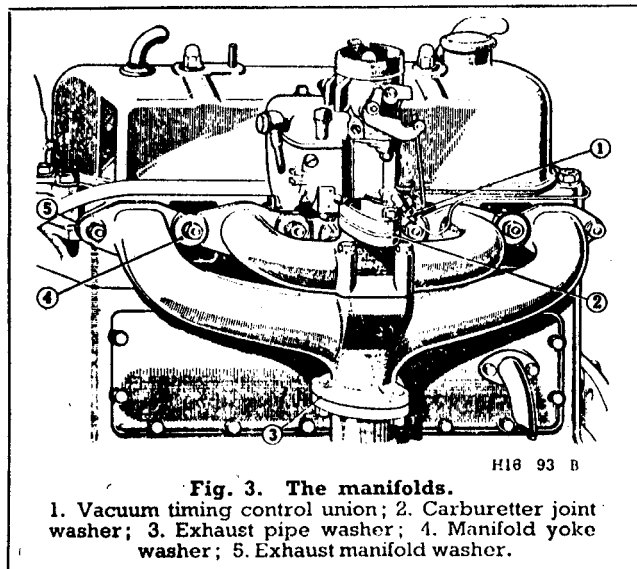

Fig. 3. The manifolds.
The fan is driven by a 'V' belt from the crankshaft, this also driving the dynamo. A new belt can be fitted by first loosening the clamp bolts (A) Fig. 3, which hold the dynamo in position and moving the dynamo towards the engine. Slide the belt over the fan on to the fan pulley, the crankshaft pulley, and finally on to the dynamo pulley. Adjustment is then made by bringing the dynamo away from the engine. The belt should be sufficiently tight to prevent slip, yet it should be possible to move the belt laterally about one inch each way. As the drive is taken on the 'V' of the pulleys it is not necessary to have the fan belt tight ; to do so may cause